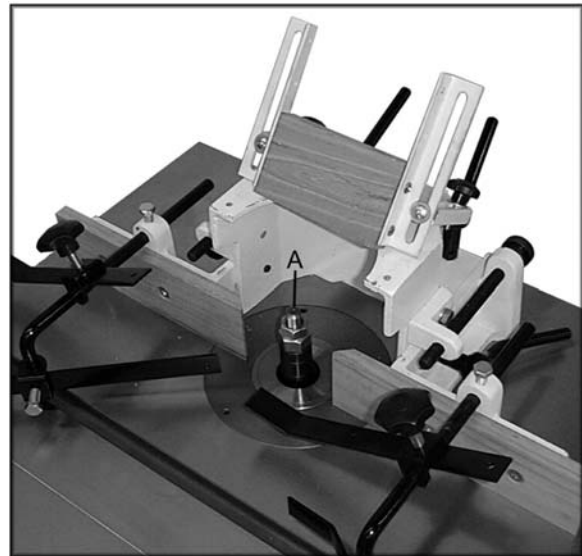

Figure 4
5. Tighten the drawbar nut (B, Figure 3) while holding the spindle nut, or spindle flat (A, Figure 4). Make sure the left hand thread safety lock nut is installed above the spindle nut, and tightened.
2. Remove two knobs that hold the guard assembly to the dust chute. Place an adjustable wrench on the spindle nut, or spindle flat (A, Figure 4).